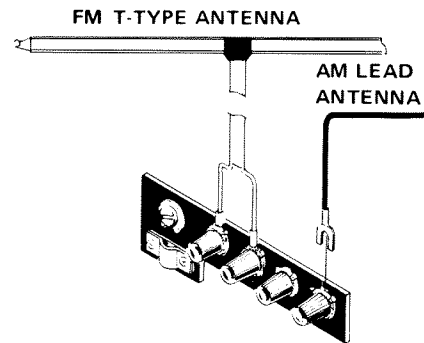

Fig. 6
- If the receiver is to be located in a wooden building and stations are nearby, use the T-type antenna which comes with the SX-727. As shown in Fig. 6, connect the feeder terminals of the antenna to the FM antenna terminals. Stretch out the antenna proper and secure it to the ceiling or a wall in such a manner that pickup is optimum, as determined by listening to the station to be received. Refer to FM RECEPTION on page 9.